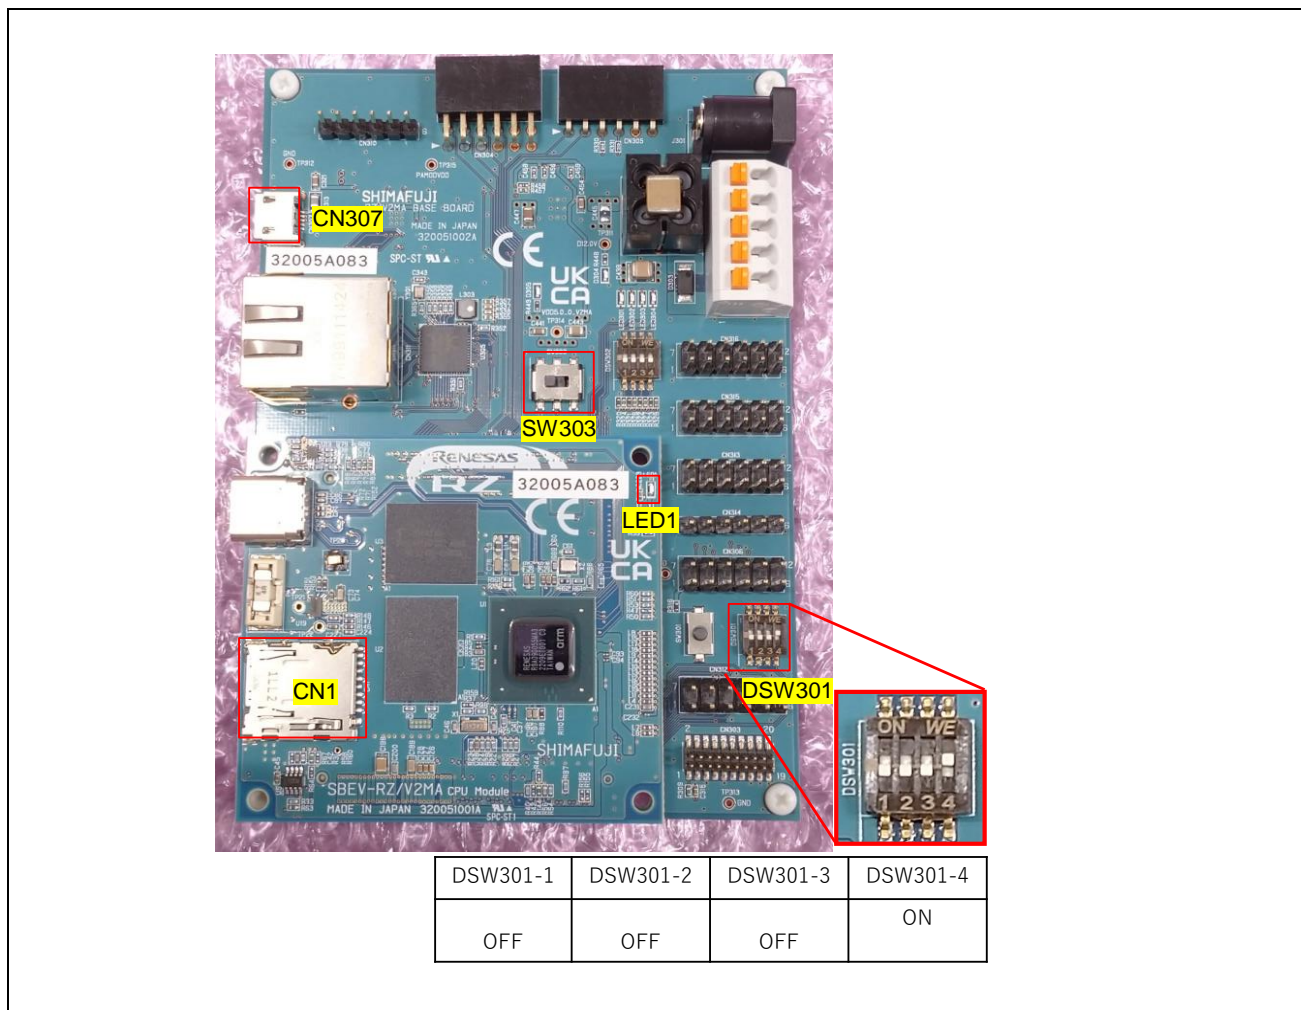

Figure 2.1-1 DSW301 Settings
1. With the V2MAEVK board power turned off, insert the prepared SD card into the V2MAEVK's CN1 connector and set DSW301 (see **Figure 2.1-1** for the DSW301 setting method)